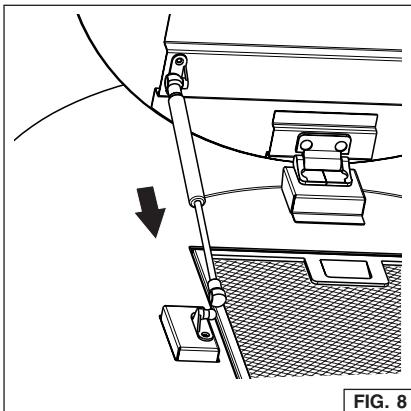

FIG. 8
2. Pull each cylinder to extend its length. Fig. 8.